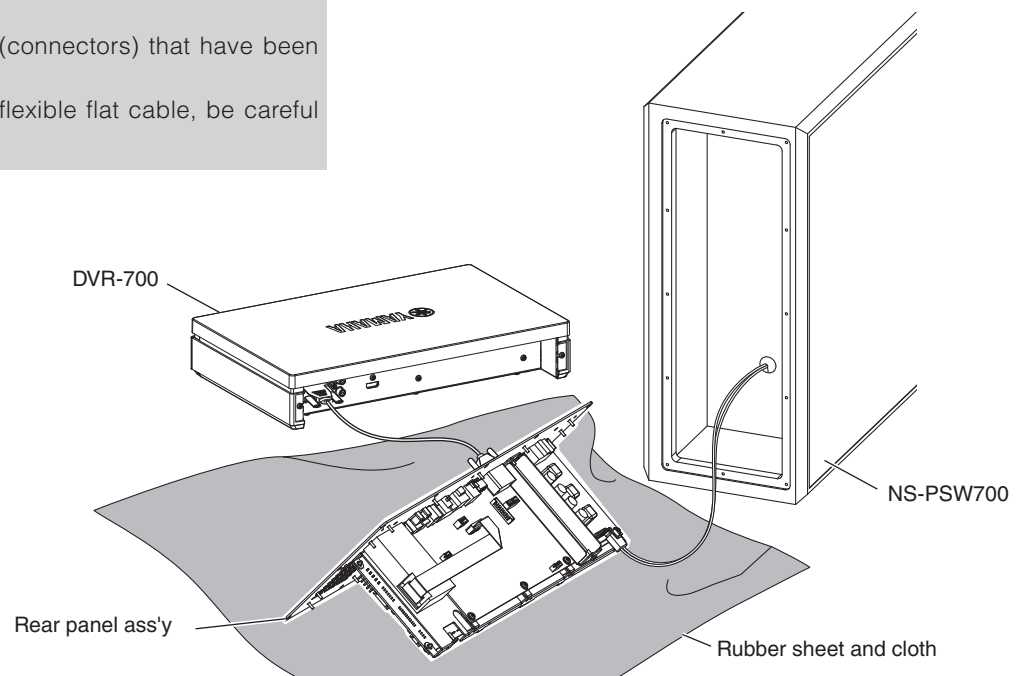

Fig. 5
- Spread the rubber sheet and the cloth. Then place the rear panel ass'y on the cloth and check it. (Fig. 5)